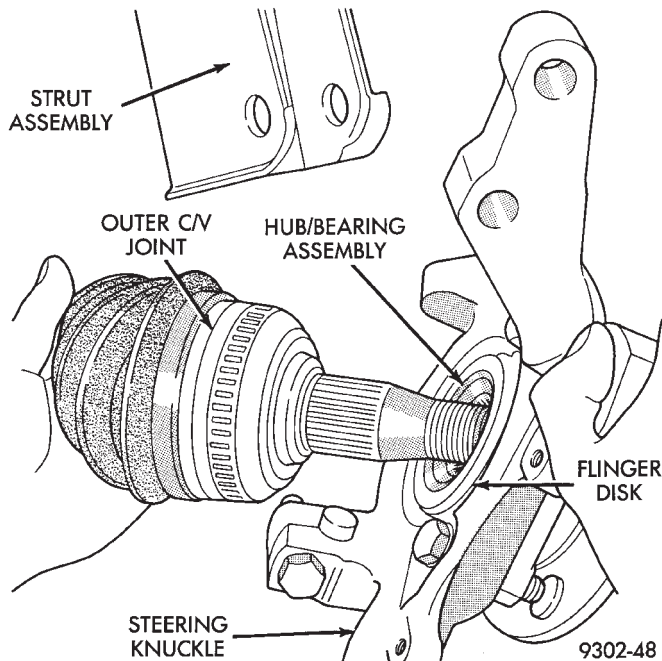

Fig. 12 Outer C/V Joint Installation Into Hub and Bearing
CAUTION: When installing outer C/V joint into the hub and bearing assembly, do not allow the flinger disk (Fig. 12) on hub and bearing assembly to become damaged. Damage to the flinger disk can cause dirt and water intrusion into bearing and premature bearing failure.
(5) Hold outer C/V joint assembly with one hand. Grasp steering knuckle with other hand and rotate it out and to the rear of the vehicle. Install outer C/V joint into the hub and bearing assembly (Fig. 12).